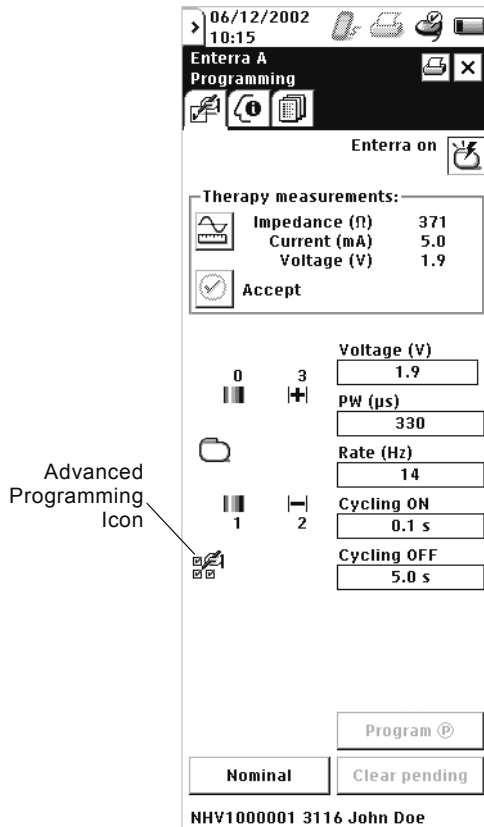

Figure 29. Access advanced programming.
1. Access Advanced Programming (Figure 29).